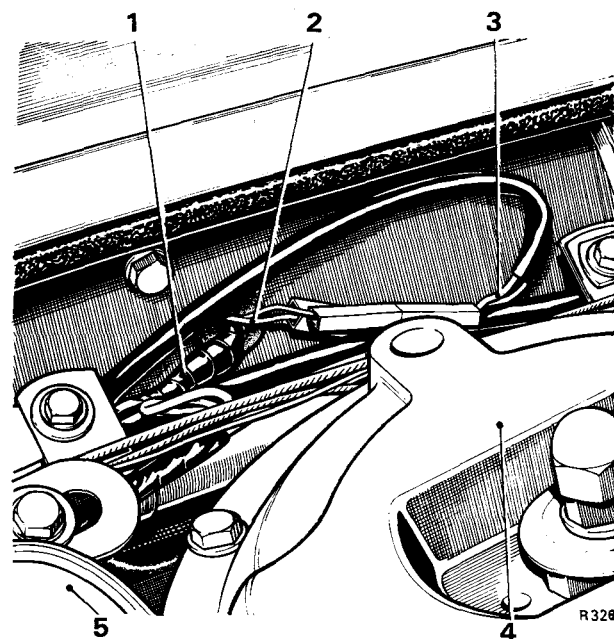

FIG. 13 CATALYTIC CONVERTER THERMOCOUPLE PROBE CABLES AND CONTROL BOX LOOM
3. Raise the car bonnet, locate the Lucar connections for the catalyst converter thermocouple and disconnect the brown cable. The connections are situated adjacent to the front left-hand road spring pot cover and the valance. The two cables one brown and one blue, together with the control box loom enter the engine compartment from under the front wing (see Fig. 13).
1. Raise the car bonnet, locate the control box loom and the two catalyst thermocouple cables on the left-hand valance adjacent to the front road spring pot cover (*see Fig. 13*).
5. Raise the car bonnet, locate the control box loom and two catalyst thermocouple cables on the left-hand valance adjacent to the front road spring pot cover (see Fig. 13).